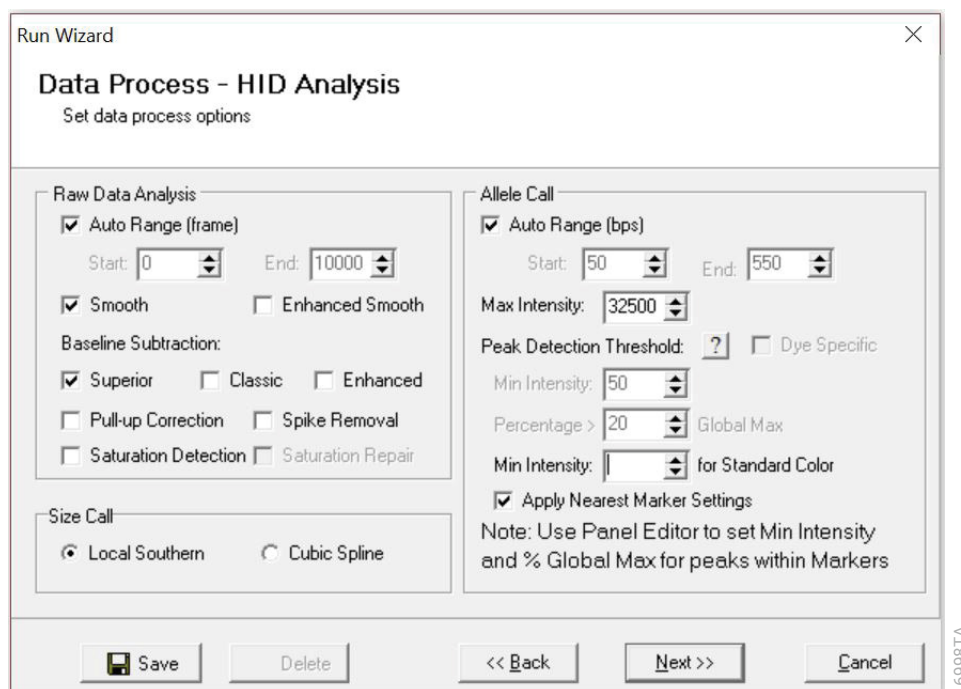

Figure 22. The 'Data Process' window for an analysis method.
9. The 'Data Process – HID Analysis' window will appear (Figure 22). For the Raw Data Analysis, we recommend using Auto Range, Smooth, Superior Baseline Subtraction and Local Southern for the Size Call.